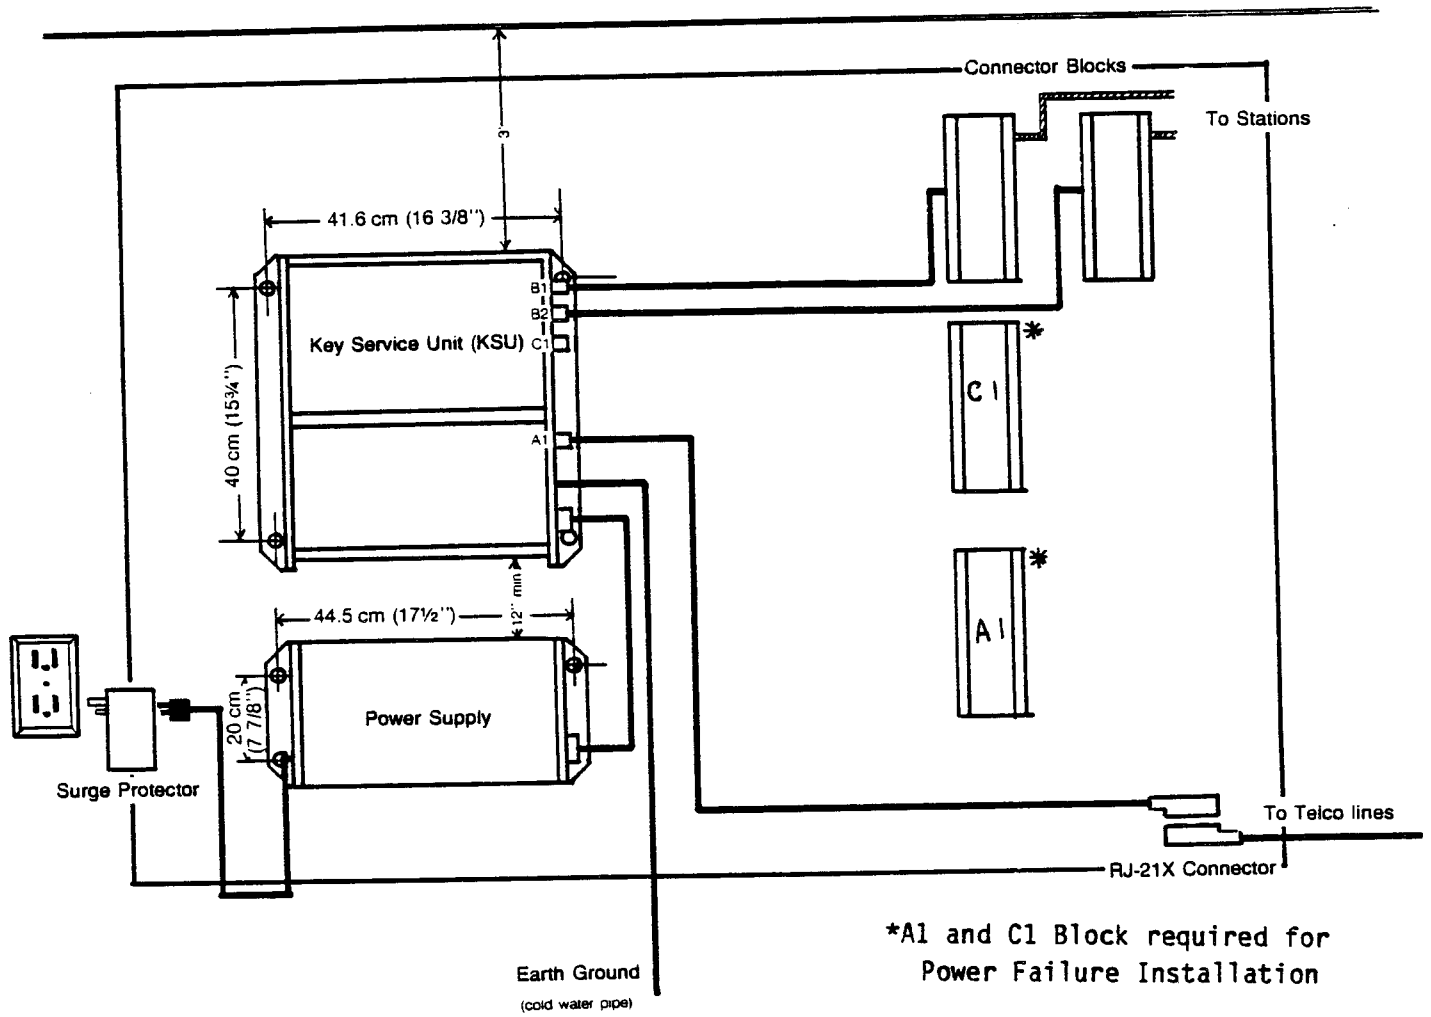

Figure 5-1 KSU MOUNTING SITE
2.02 The area for mounting the KSU and related control equipment should be clean, dry, temperature controlled and accessible only to authorized personnel. The site should be away from caustic chemicals, heavy machinery, static electricity and copying machines. There should be ample room to mount and maintain the equipment (Figure 5-1).
4.06 Ground the KSU by connecting a 14 AWG, or heavier, insulated copper wire from the KSU to a cold water pipe or other known ground. The ground wire should be as short as possible. Connect the ground wire to the grounding lug on a cold water pipe on the right side of the KSU (Figure 5-1).